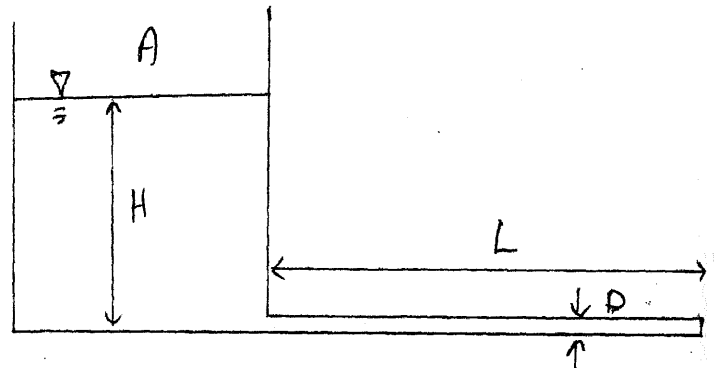

FIGURE 3
3) A water tank, of cross-section area,  $A$ , discharges through a very long pipe of length,  $L$ , and diameter  $D$ , as shown in Figure 3. The water level in the tank is  $H$ . A student analyzing this problem obtains a relationship between the velocity in the pipe,  $V$ , and the water level,  $H$ , as